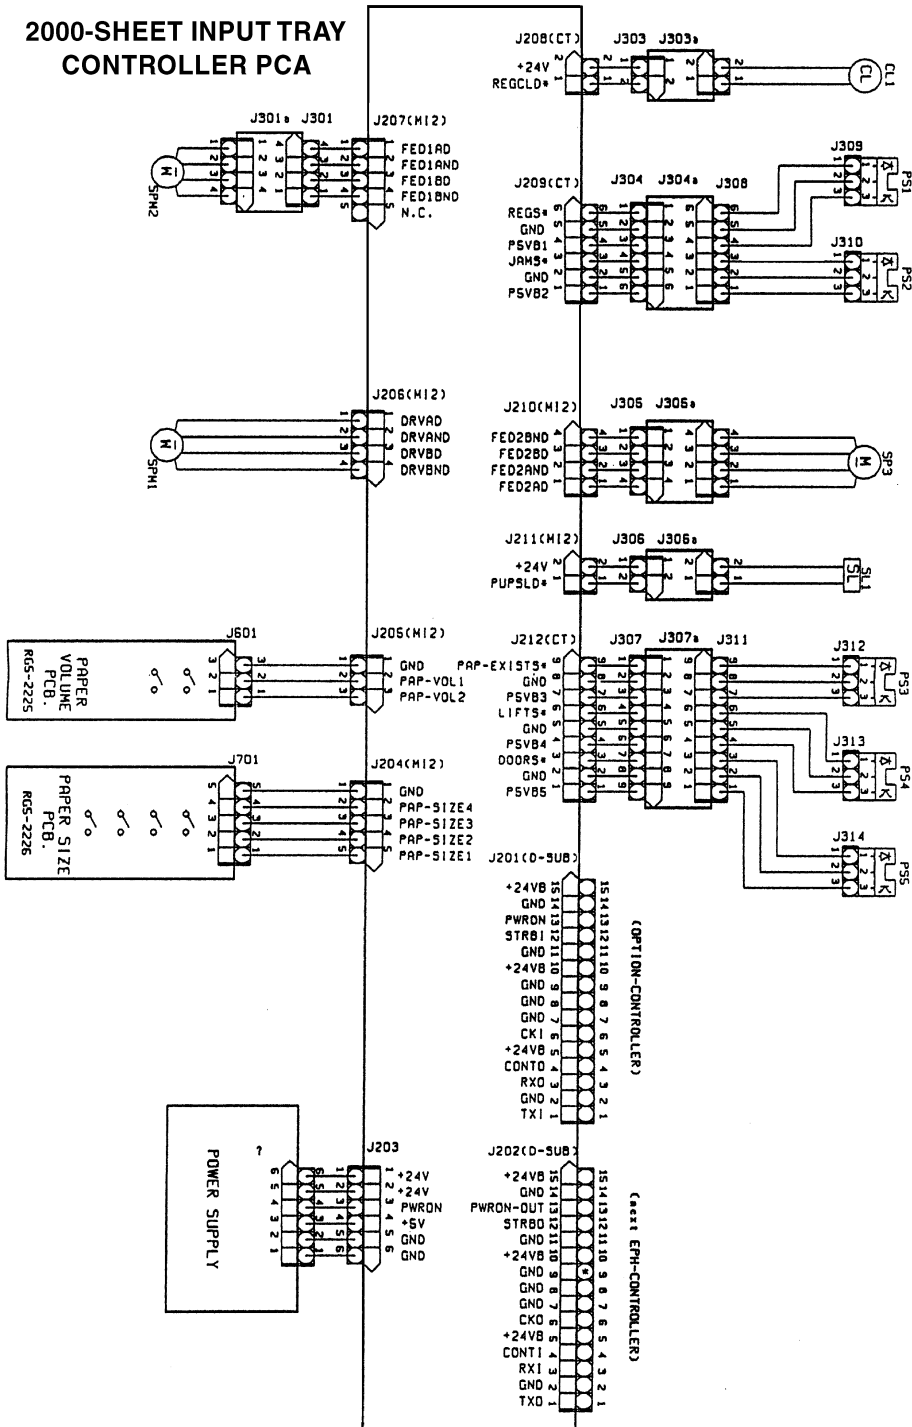

Figure 7-28 2000-sheet Input Tray Main Wiring Diagram
- Figure 7-28, “2000-sheet Input Tray Main Wiring Diagram,” on page 509